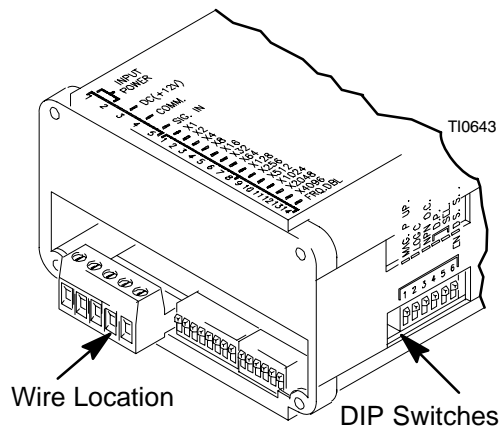

Fig. 5 Tach Display Connections
1. Connect the wire labeled Spare 1 to the #3 position of the tach display (TD321), and the terminal block in position 3102. See fig. 5, Tach Display Connections. Relabel the wire 3102